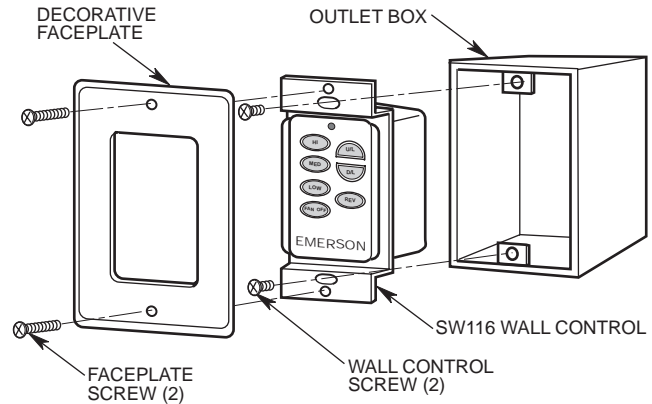

Figure 20
- 3. Install the wall control onto the outlet box using the supplied screws (Figure 20).
- 4. Install decorator faceplate (included) using the two screws provided. Leave wall control in "OFF" mode until fan installation is completed (Figure 20).